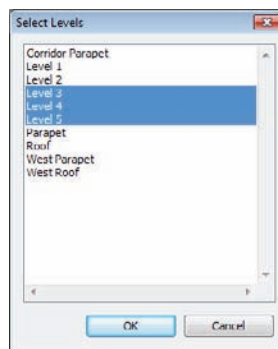

FIGURE 6.31 Selecting the levels where you want the slab to be copied
5. The Select Levels dialog box appears, where you will choose the levels to which you want to paste your floor. Choose Levels 3, 4, and 5, as shown in Figure 6.31. (Use Ctrl to select more than one.)